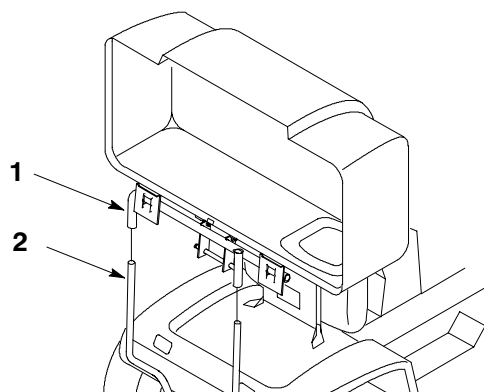

Figure 24
- With lid in the open position carefully lift the bagger top and slide it onto the quick-attach bracket (Fig. 24).